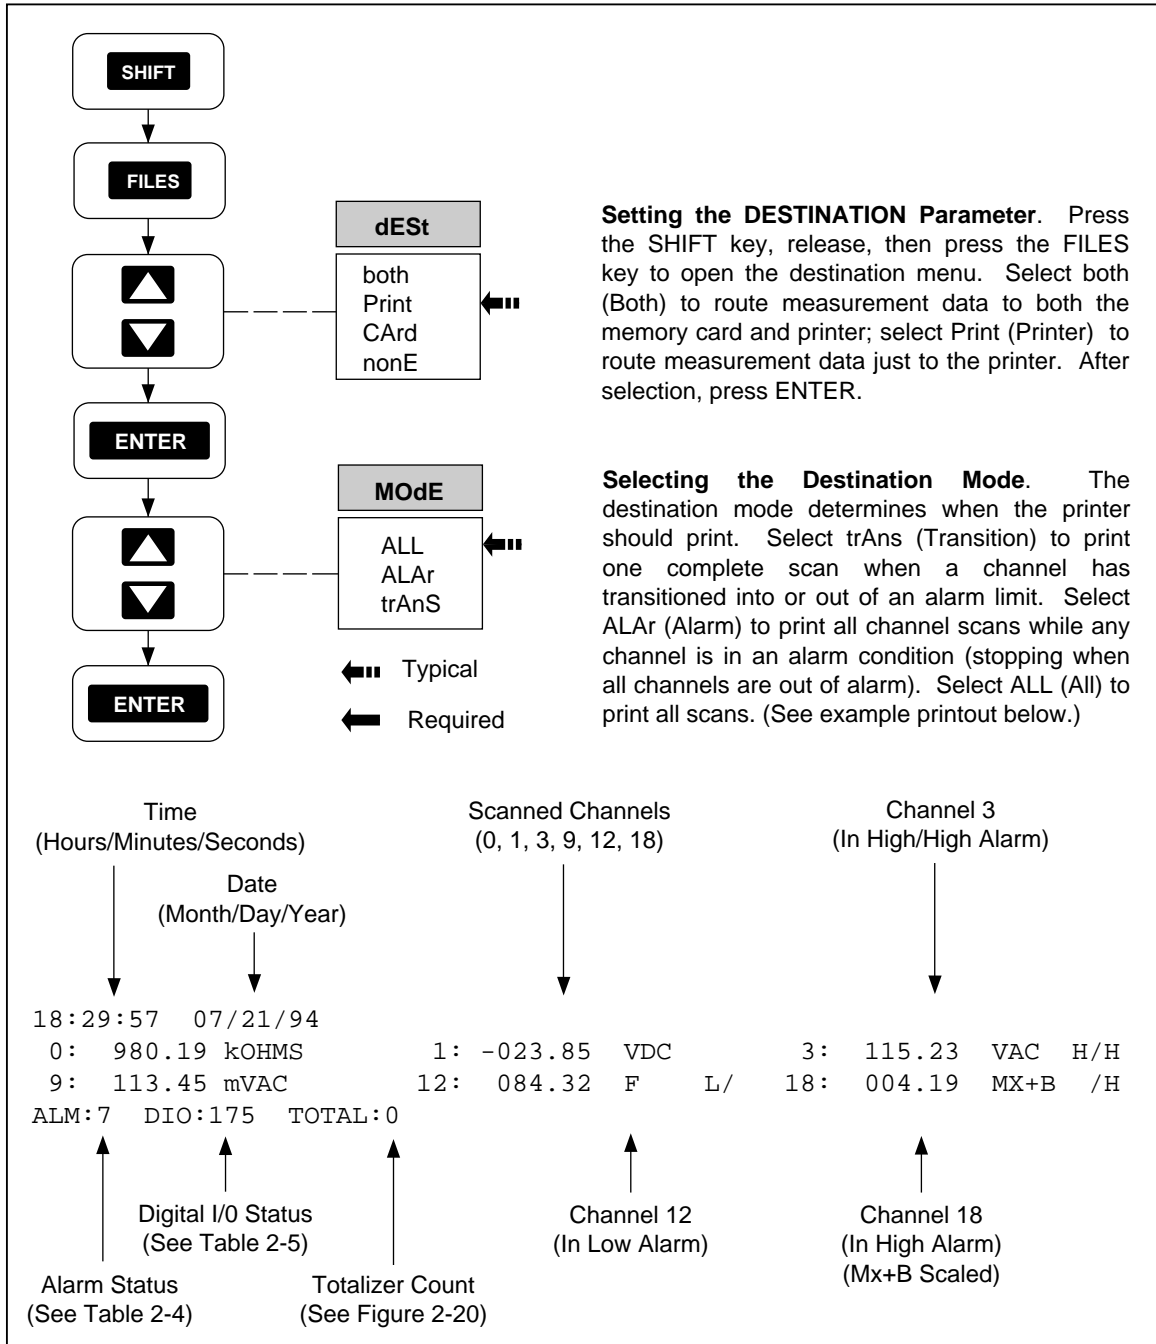

Figure 5-3. Printing Measurement Results During Scanning
- Printing Measurement Results During Scanning (Figure 5-3)
Perform the procedure in Figure 5-3 to print measurement results during scanning. The destination for the scanned data can be the printer, memory card, both the printer and the memory card, or no destination, where the data is saved only in the Review array. The mode for the printing to the printer or memory card can be all scanned data, scanned data only when any scanned channel is in alarm, or scanned data only when an alarm transitions from one alarm stat to another.